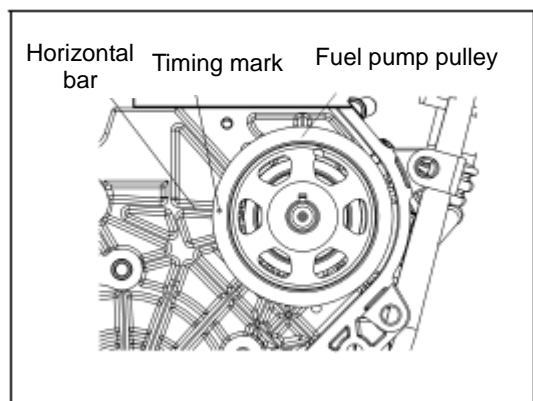

Fig. 4-1-44 Installing the timing system
(4) Align the timing mark on the fuel pump pulley with the horizontal bar on the water pump housing. See Fig. 4-1-44.